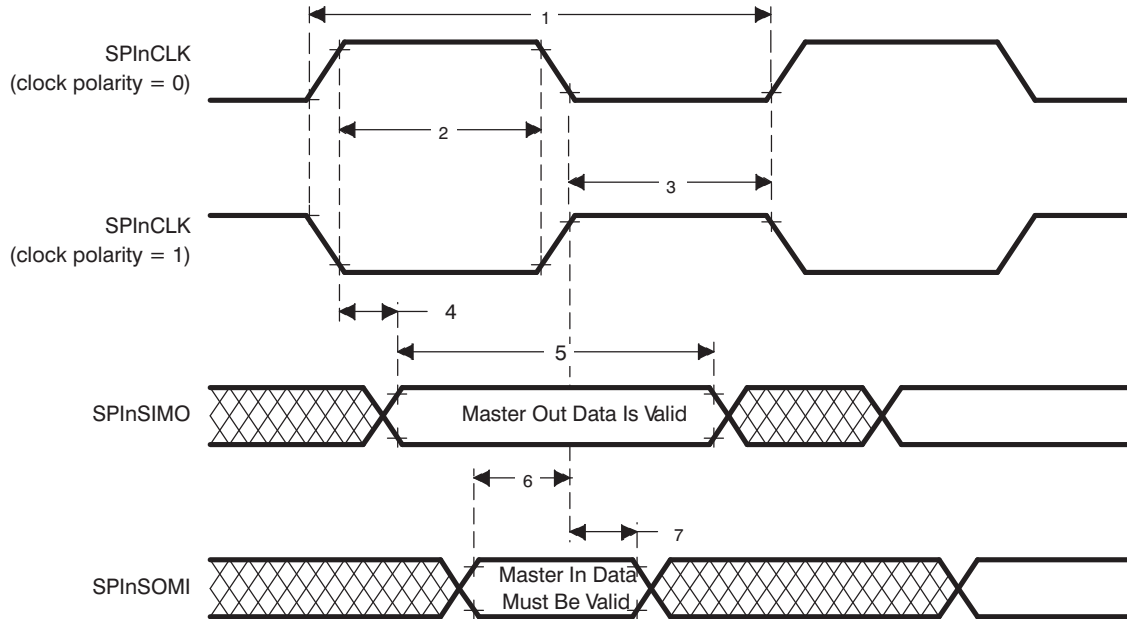

Figure 6-9. SPIn Master Mode External Timing (CLOCK PHASE = 0)
(CLOCK PHASE = 0, SPInCLK = output, SPInSIMO = output, and SPInSOMI = input)^{(1)(2) (3) (4)} (see Figure 6-9)